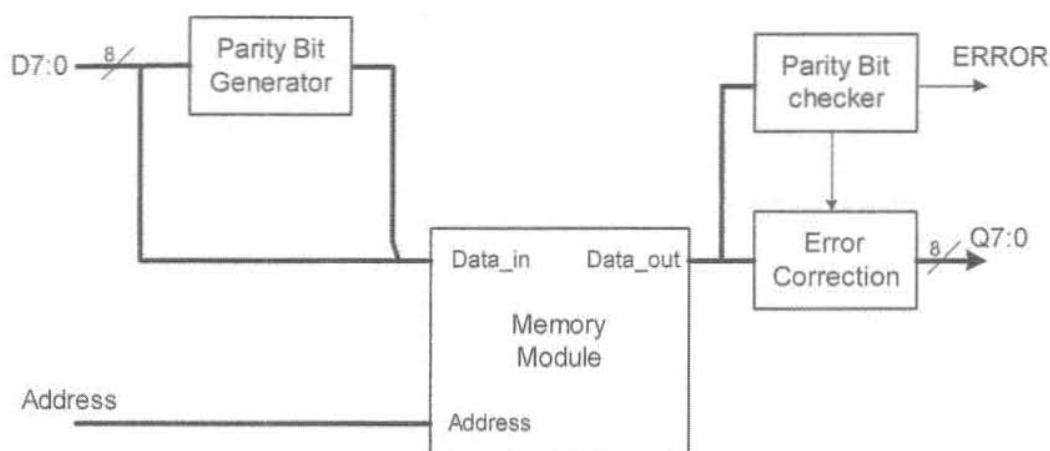

Figure 3.1
- c) Figure 3.1 shows an error-correcting memory module that can correct single bit error in the data $D7:0$. The signal *ERROR* at the output is high when an error is detected and low otherwise.